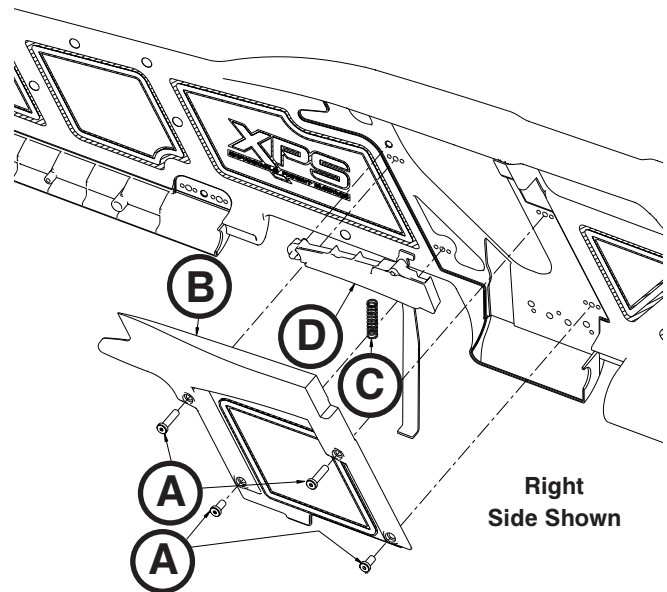

Figure 84
3. Using a 3/32" hex wrench, remove the four screws (A) that secure the release cover (B) to the overmold assembly to remove the release cover (Figure 84).
4. Using a small slotted screwdriver, pry the release handle return spring (C) up to remove the spring (Figure 84).
5. Grasp the release handle assembly (D), and hinge it upward on the spring side to remove it from the cover (Figure 84).